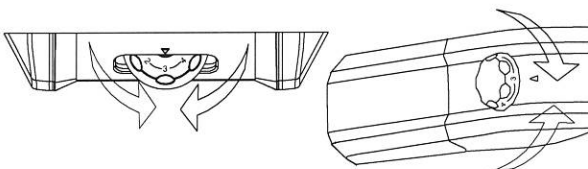

Fig.5
- The temperature adjustment of both compartments is effected by rotating the thermostat knob (fig. 5).